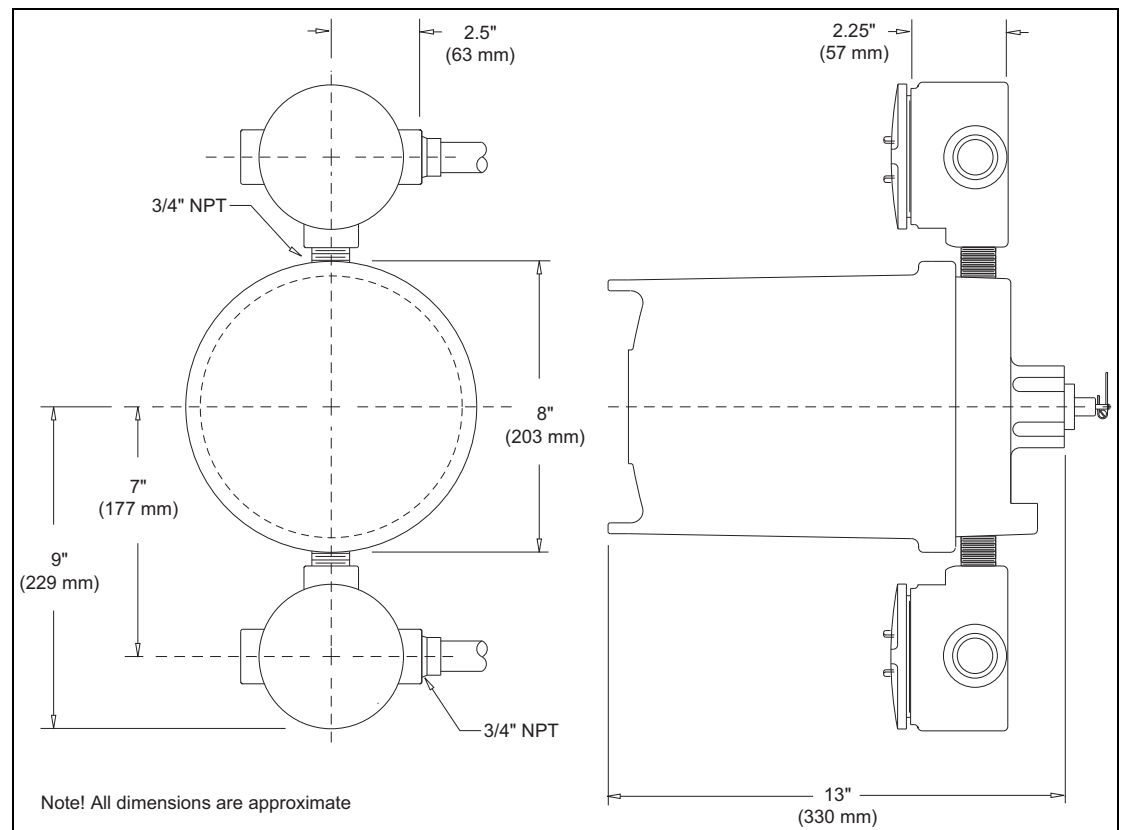

Figure 2-1: 2900 FTT Dimensions
2. There is sufficient space around the mechanical gauge to install the transmitter and accessories (such as conduit and cabling). Refer to Figure 2-1.